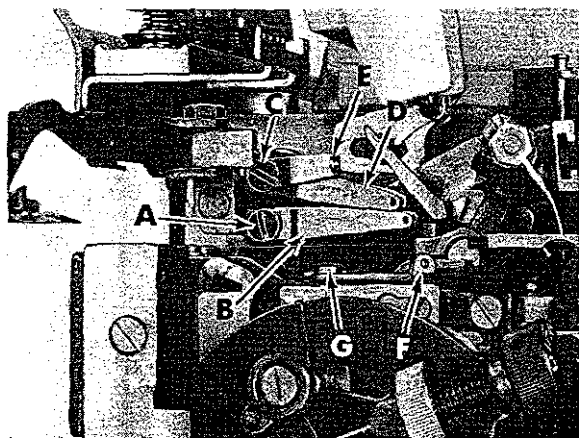

Fig. 22
Loosen screw (A, Fig. 22). Center lower looper thread eyelet (B) in its adjusting slot and set eyelet in a horizontal position. Hold eyelet (B) in position and tighten screw (A).